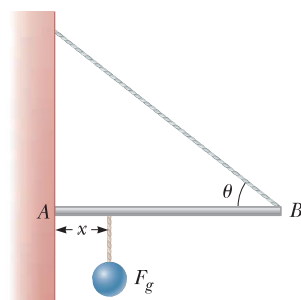

Figure P12.23
23. One end of a uniform 4.00-m-long rod of weight F_g is supported by a cable at an angle of $\theta = 37^\circ$ with the rod. The other end rests against the wall, where it is held by friction as shown in Figure P12.23. The coefficient of static friction between the wall and the rod is $\mu_s = 0.500$. Determine the minimum distance x from point A at which an additional object, also with the same weight F_g , can be hung without causing the rod to slip at point A.